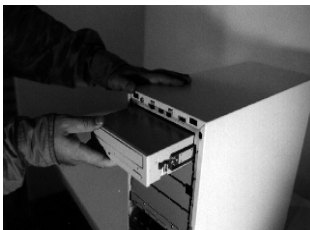

Fig:7
B. Slide CD-ROM in to 5.25" bay and snap in to place (Fig. 7)..